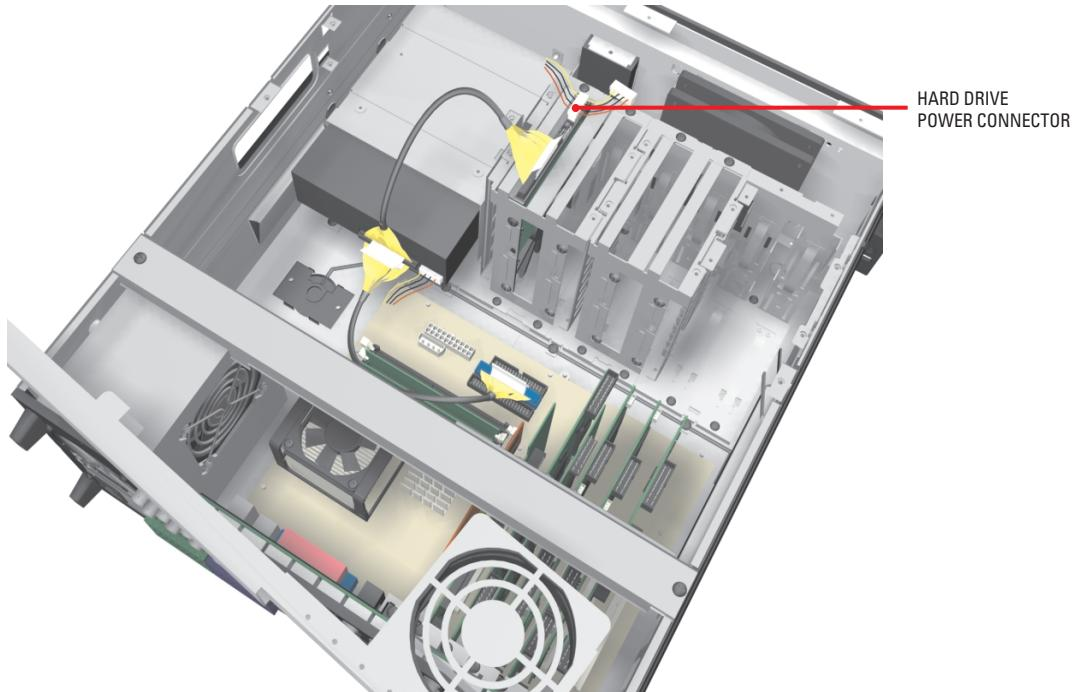

Figure 17. Installing Power Connector
3. Connect the hard drive power connector according to the diagram in Figure 17.